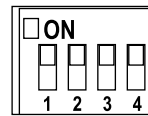

Figure 1a
- **Transmitter:** remove battery cover. Press firmly below arrow and slide battery cover off. Slide code switches to your choice of up or down position. Factory setting is all up. Do not use this position. With a small screwdriver or ball point pen slide firmly up or down (Figure 1a). Replace battery cover on the transmitter.
- **Transmitter:** located on back side of unit. Slide code switches to your choice of up or down position. Factory setting is all up. Do not use this position. With a small screwdriver or ball point pen slide firmly up or down (Figure 1a).
1. Screw in two threaded rods into the Hanger Bracket (Figure 1a).